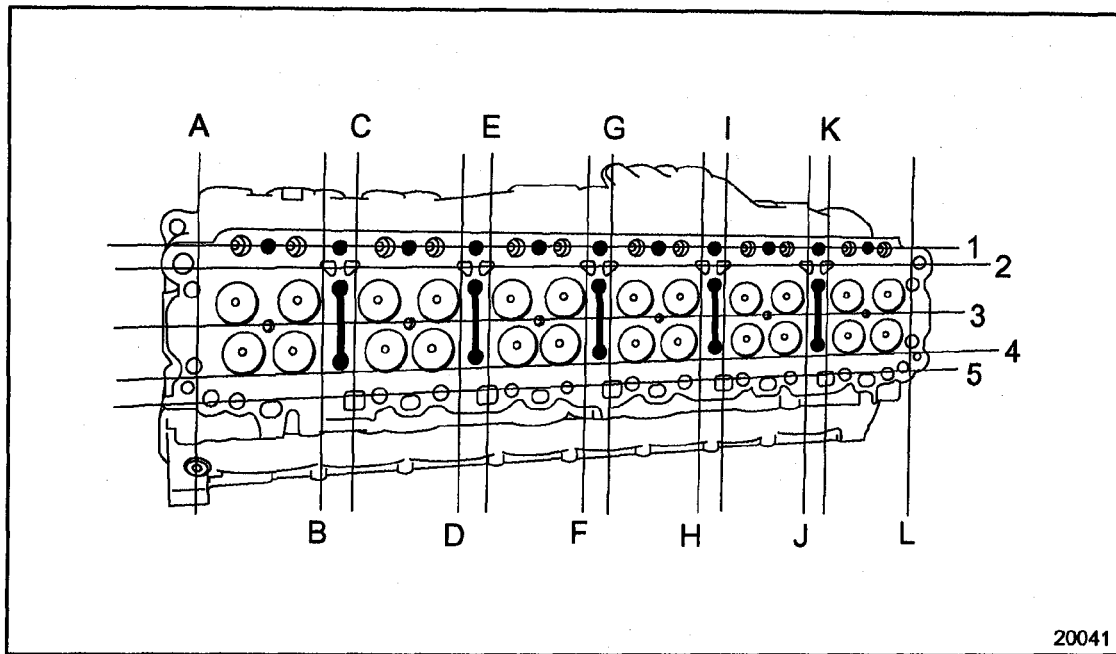

Figure 1-42 Cylinder Head Measurement Locations
- Also, check for longitudinal warpage in five places and transverse warpage in 12 places, indicated as A through L in the next illustration. See Figure 1-42.